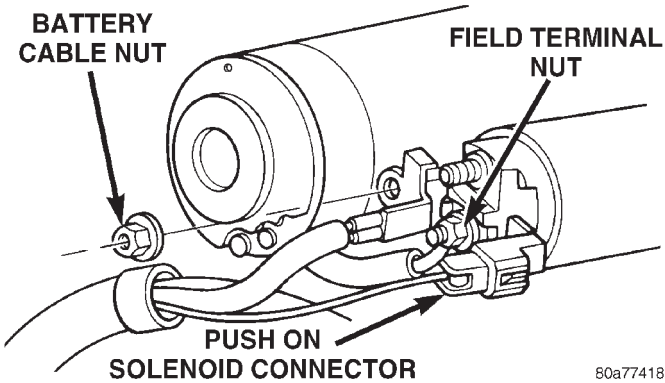

Fig. 12 Wire Terminal Connection
- (5) Remove starter solenoid assembly from transmission housing. Position the starter to gain access to the wiring connectors.
- (6) Remove the battery positive cable nut from starter and remove cable (Fig. 12).